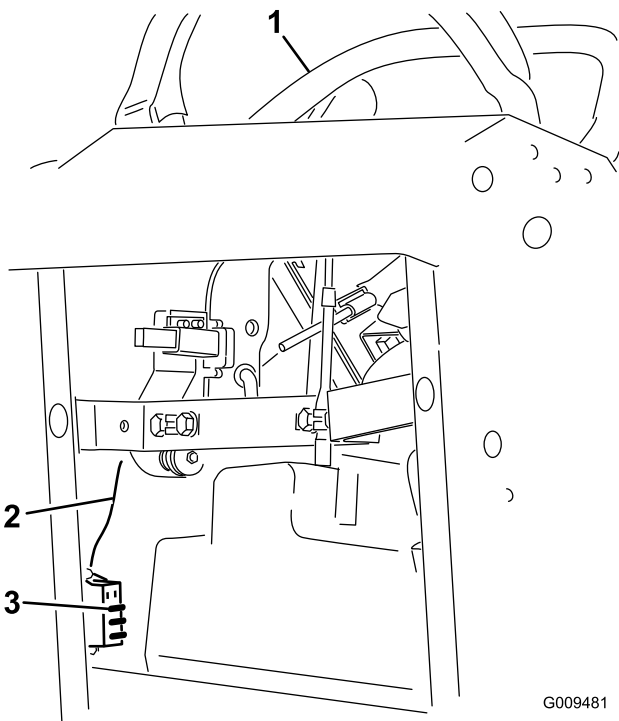

Figure 55
2. Pull out on the fuse to remove or replace it (Figure 55).
Note: Ensure the correct size fuse is install with the correct wire color as shown in Figure 55.